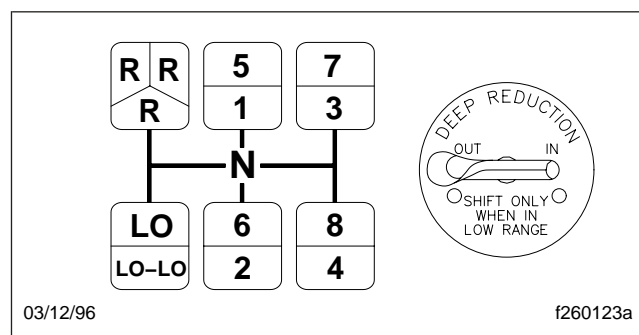

Fig. 8.8, Shift Pattern, Deep Reduction
Eaton Fuller deep-reduction models are not synchronized. They have a five-speed front section and a two-speed auxiliary section which has an extra deep reduction gear. The LO gear in the front section is used only as a starting gear. The other four ratios are used once in LOW RANGE and once in HIGH RANGE giving eight highway ratios. LO-LO is selected by the DEEP REDUCTION lever on the dashboard. See Fig. 8.8 for the shift pattern.
1. Position the gear shift lever in neutral. See Fig. 8.8 for the shift pattern. Start the engine, and bring the air system pressure up to 95 to 125 psi (655 to 862 kPa).